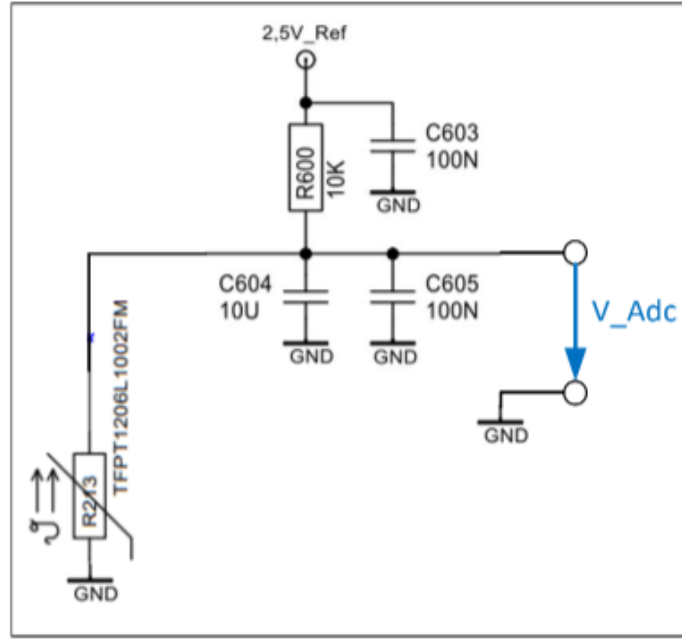

Figure 1: Temperature measurment circuit
For simplification, ADC input impedance, in this circuit (Figure 1), is considered high enough that is possible to neglect current leaking over ADC pin. In this way, the total current i on both resistors and V_{Adc} can be written as in (1):